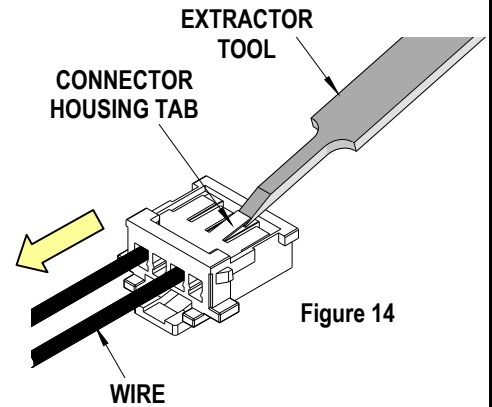

Figure 14
2. Gently lift up on the housing tab, and push the terminal back through the connector slot. While pulling the terminated wire out in the direction of the arrow. See Figure 14.